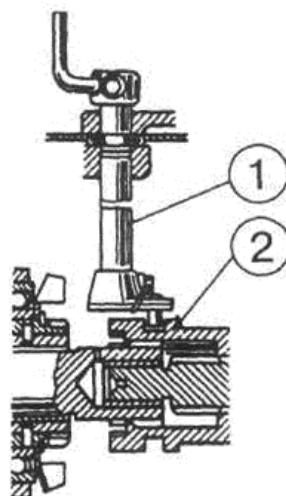

Figure 4.121
k) mount knuckle clutch 2 (Figure 4.121) on shaft of PTO drive in extreme back position, bring carrier of roller 1 that shifts PTO operation modes, in its groove;